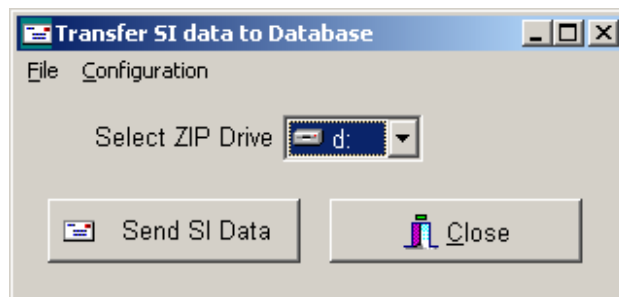

Figure3.4 Send Data window.
1. Click ***Send Data*** in the SI Manager Station. The Send Data window will now appear as shown in Figure 3.4.